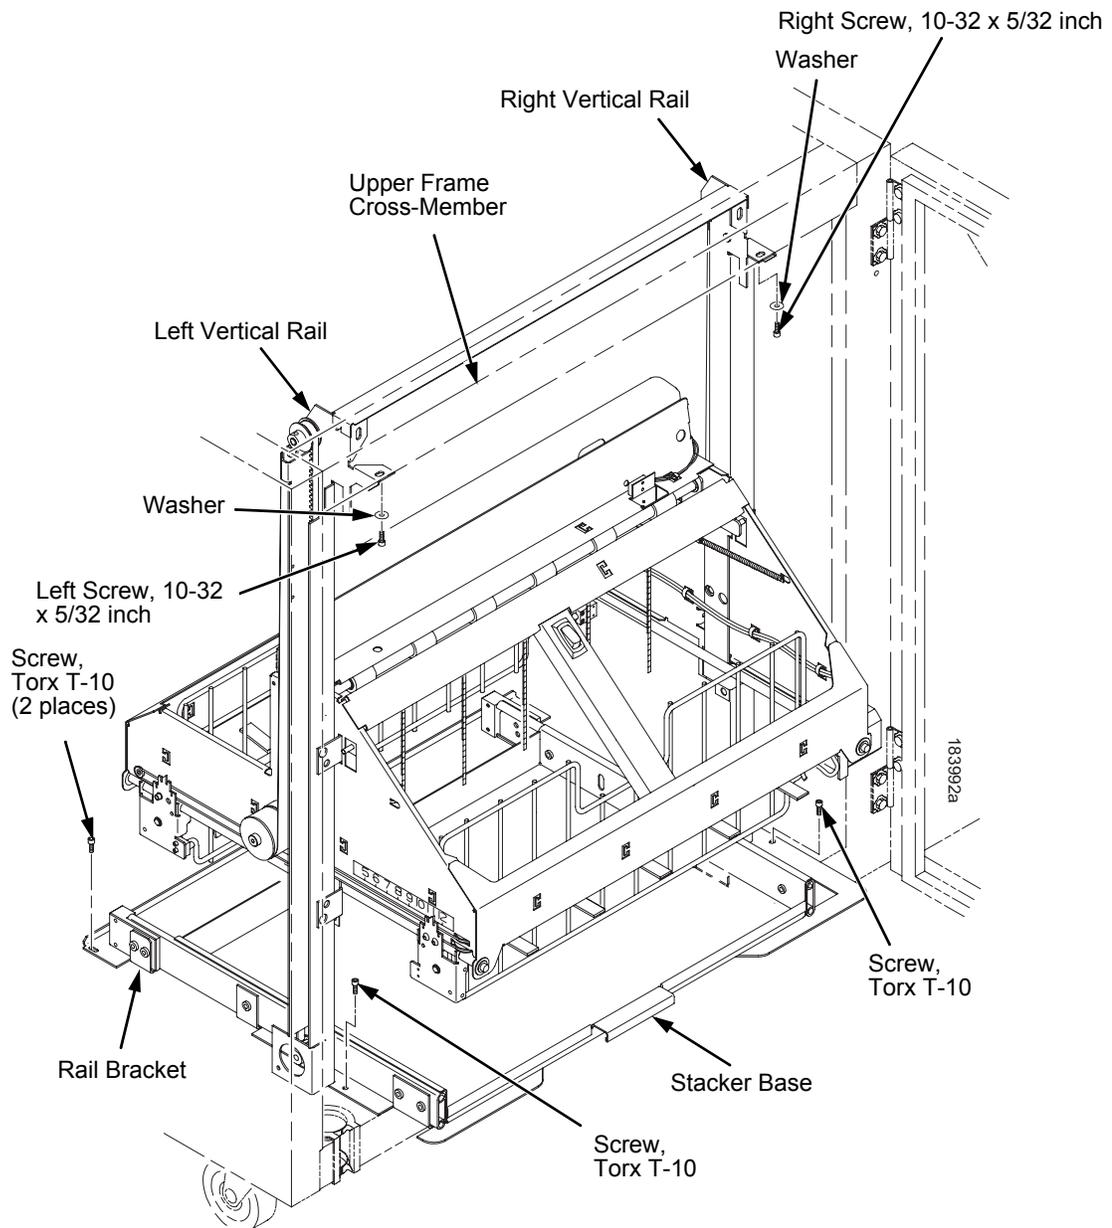

Figure 8. Preparing the Stacker for Removal
6. Remove the two 10-32 x 5/32 inch buttonhead screws and washers securing the vertical rails to the upper frame cross-member at the rear of the cabinet. (Figure 8.)
7. Remove the two Torx T-10 screws securing the stacker base to the cabinet floor. (Figure 8.)
8. Remove the two Torx T-10 screws that secure the rail bracket to the cabinet floor. (Figure 8.)